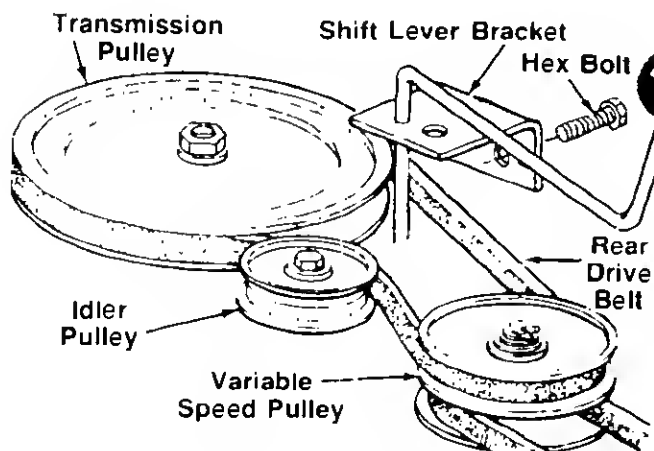

FIGURE 28.
3. Push the idler pulley toward the right side of the unit. Lift the belt over the idler pulley. See figure 28.
5. Remove the two bolts which hold the shift lever bracket to the frame on the left side of the unit. Swing the bracket toward the right so the belt can be removed from the transmission pulley. See figure 28.